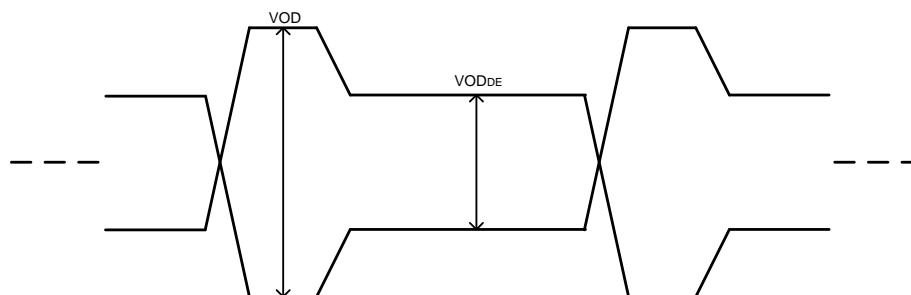

Figure 13. VOD and VOD_{DE} Levels
(1) The output drivers are capable of providing higher VOD and DEM levels (max settings are 7). For more VOD and de-emphasis levels, refer to Table 10.
(2) See Figure 13.